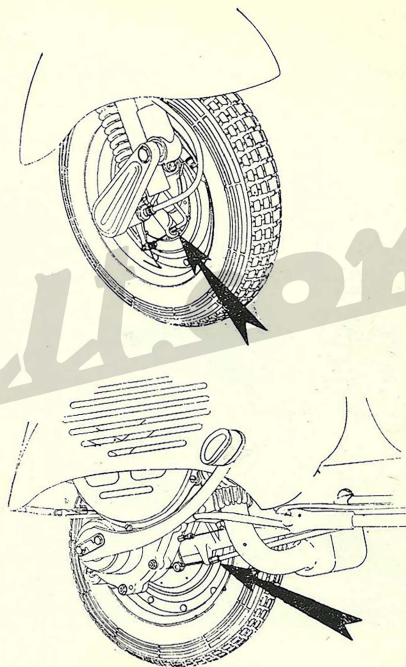

Fig. 19 - Brake adjustment
These conditions are achieved adjusting the cables by means of screws indicated with an arrow in Fig. 19.
4. – Engine noisy - Clutch troubles - Gear pinions disengage of own accord - Starter assembly not engaging - Controls not operating properly - Steering column becomes stiff - Inefficiency of suspension	Adjust (See Fig. 19) Wash with petrol and dry in air, or replace Consult the sale agent about oil leakage. Replace.